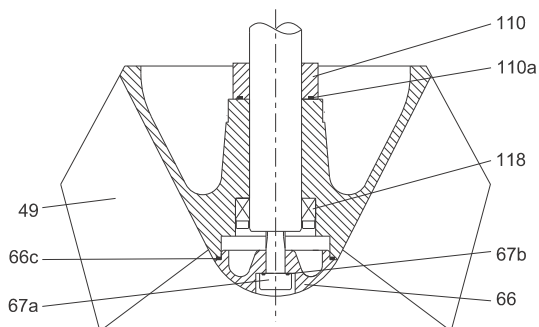

Fig. 67 Impeller, KWM, medium head
7. Lubricate and fit the O-ring (pos. 66c) on the impeller cap (pos. 66). See figs 67 and 68.
8. Lubricate and fit the O-ring (pos. 67b) on the screw (pos. 67a).
9. Mount the impeller cap (pos. 66), fit the screw (pos. 67a) and tighten it according to section 7. *Tightening torques and lubricants*.